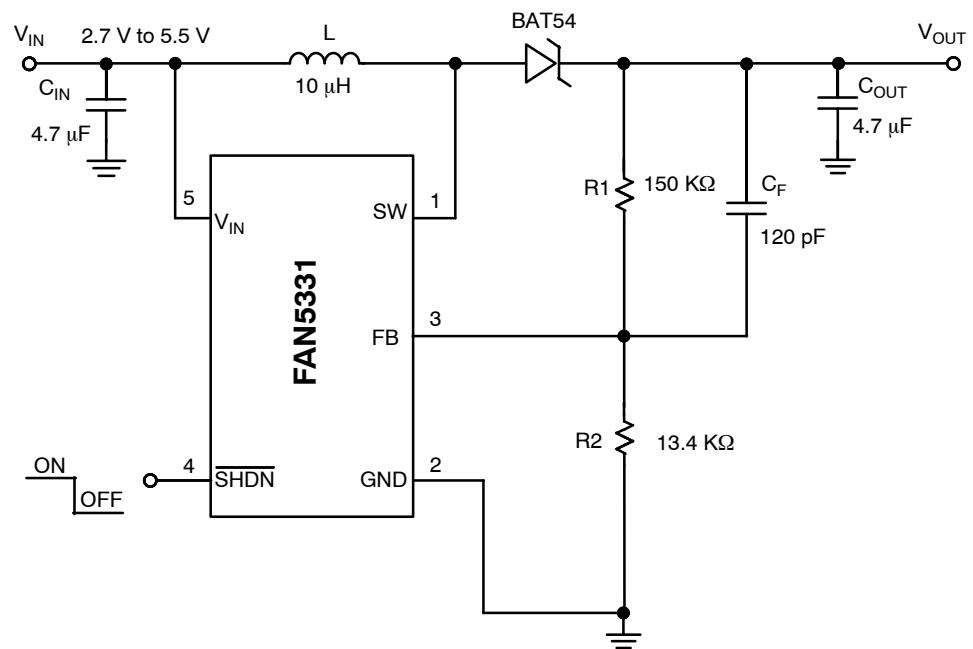

Figure 2. Test Circuit
**ELECTRICAL CHARACTERISTICS** Unless otherwise noted, VIN = 3.6 V, TA = –40°C to +85°C, Typical values are at TA = 25°C, Test Circuit, Figure 2.
$T_A = 25^\circ\text{C}$ , Test Circuit Figure 2, unless otherwise noted.